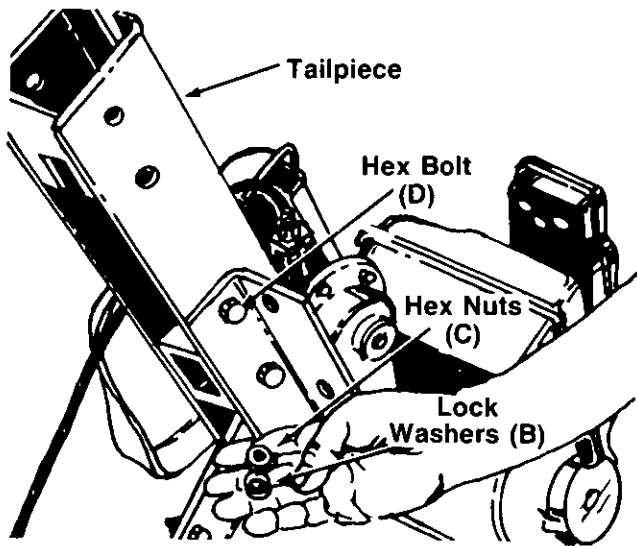

FIGURE 4.
- Secure the tailpiece to the rear frame rails with two hex bolts (D), lock washers (B) and hex nuts (C). See figure 4. Tighten all four hex bolts and nuts securely. Two  $\frac{1}{2}$ " wrenches are required.